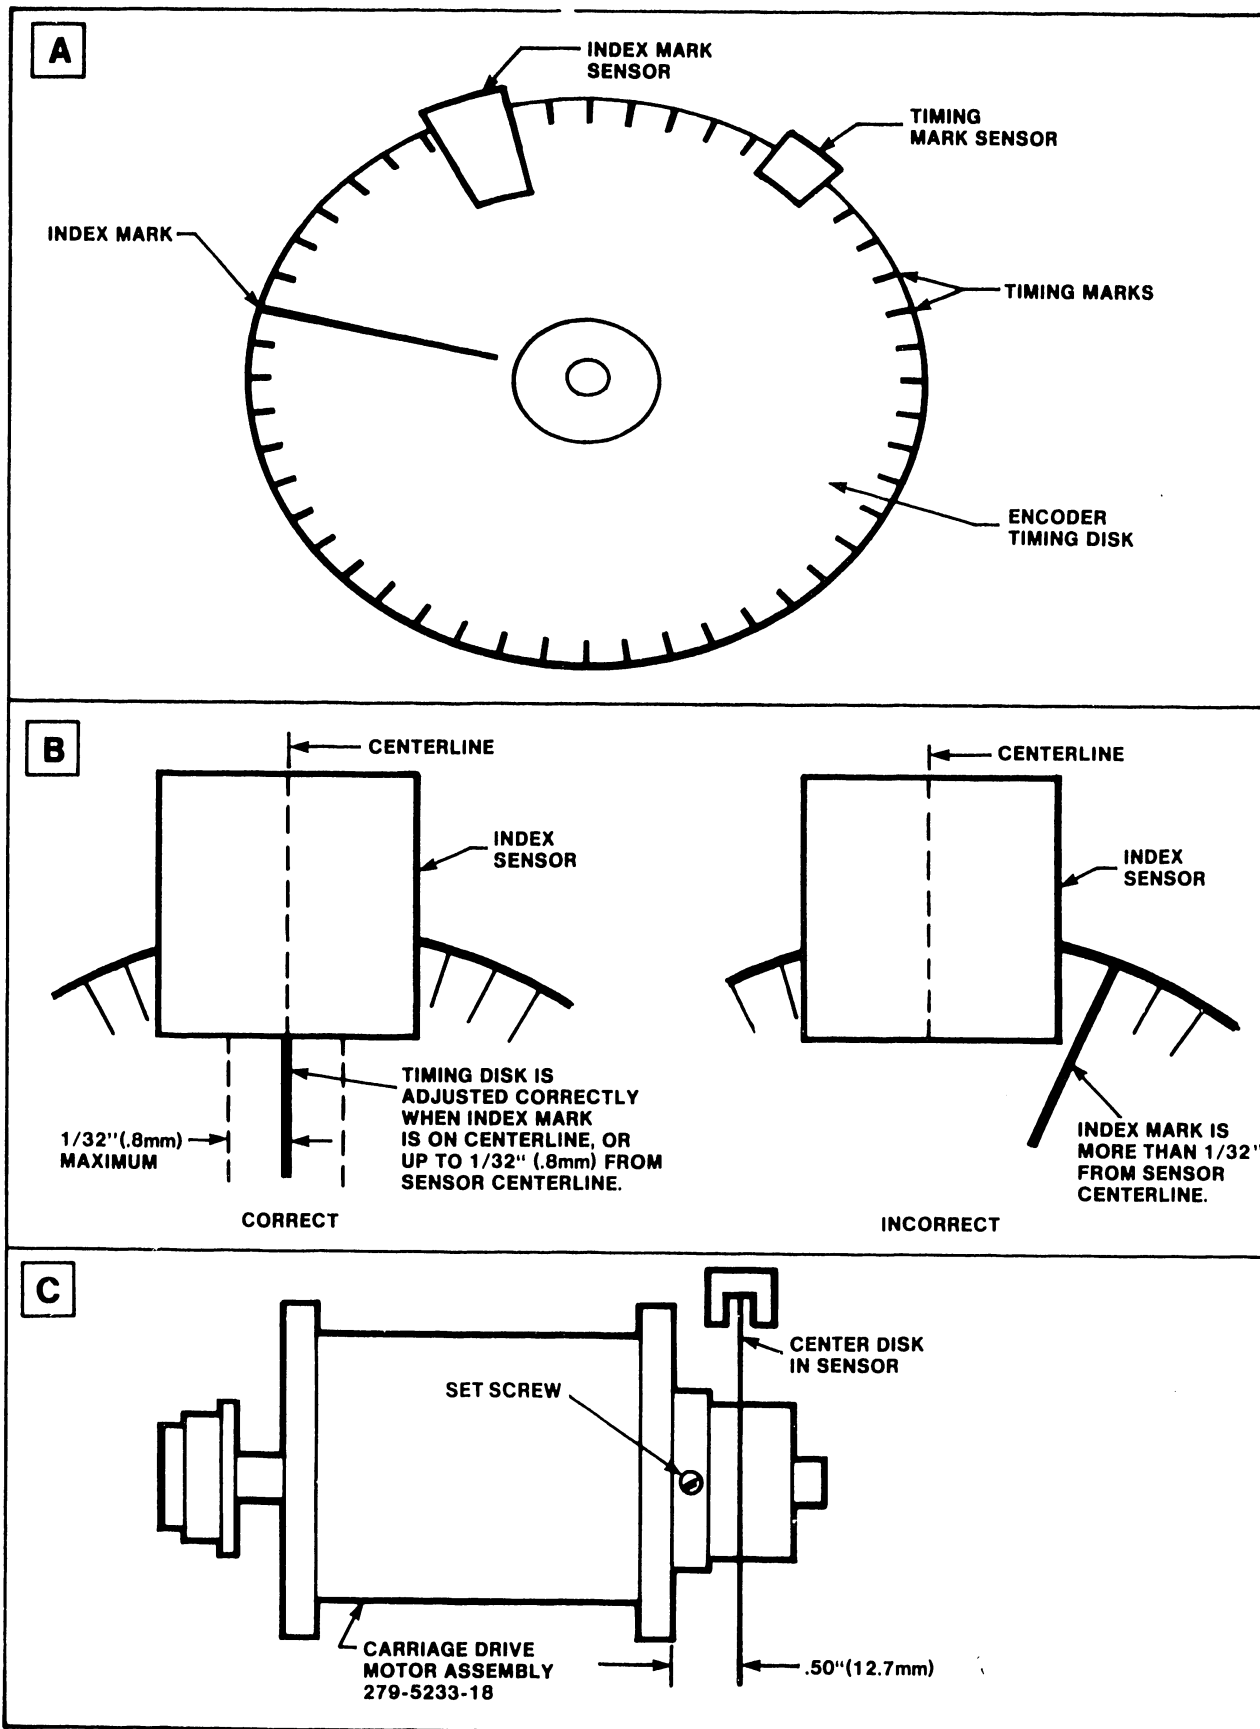

Figure 5-9 Encoder Disk
- d. Position the head carriage so that the left edge of the flag under the head carriage is  $.12" \pm .03"$  ( $3.04\text{mm}$ ) from the right edge of the home sensor as illustrated in Figure 5-9.